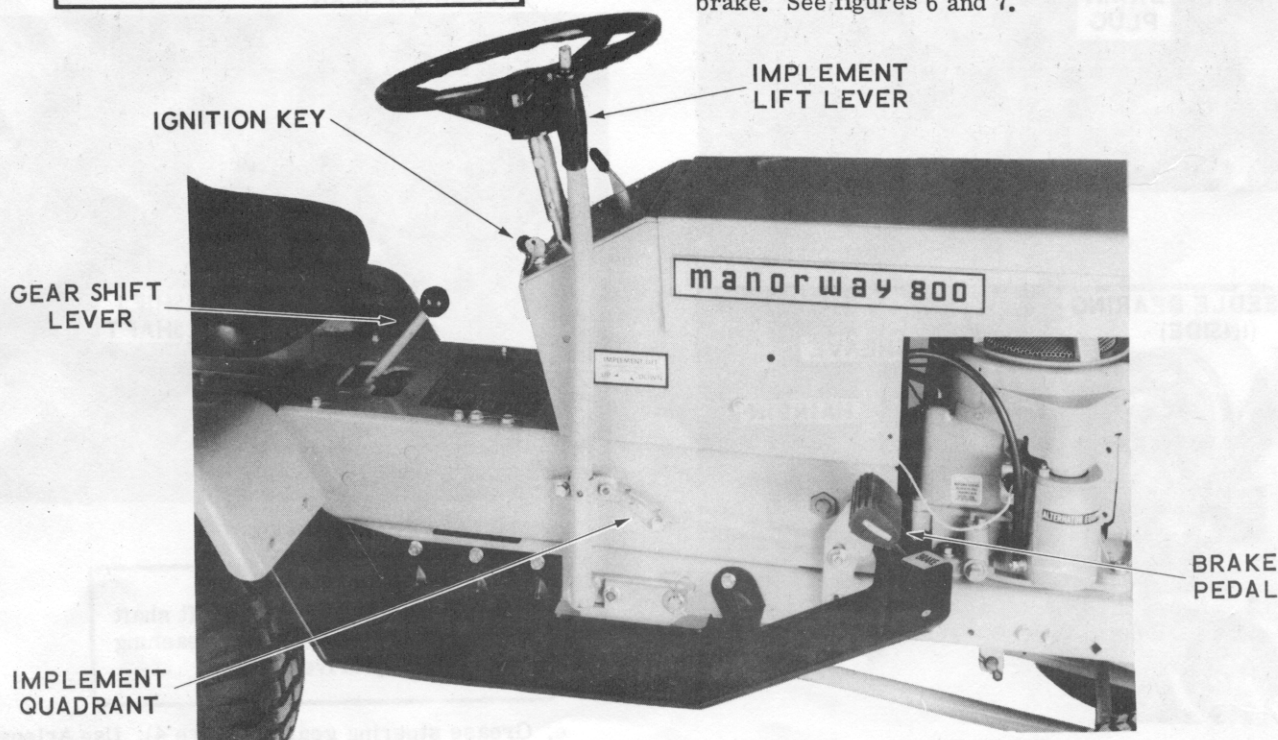

Figure 6
b. Depress the brake pedal and engage the parking brake. See figures 6 and 7.
Brakes are actuated by the pedal on the right side of the machine. If the tractor is to be stopped or parked, brake pedal should be depressed and the parking brake lever moved into the UP position. See figures 6 and 8.
The lift lever on the right side of the tractor is used to raise or lower the tractor attachments. See figure 6. For transport, press the thumb release button and pull the lever to the UP position to raise mounted equipment. Move the lever toward the DOWN position to lower equipment. Removing pressure from the thumb release will permit the lever to lock into an indent and hold the equipment in a desired position. The attachment instructions will indicate the detent position for proper operation of the attachments.